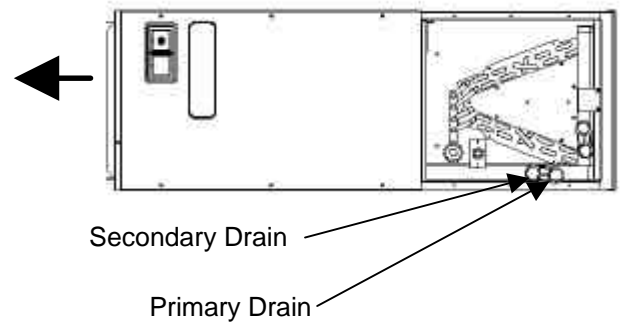

**Figure 7**
To complete the conversion, slide the evaporator coil into **the chassis and attach the three (3) access panels (Figure 7).**